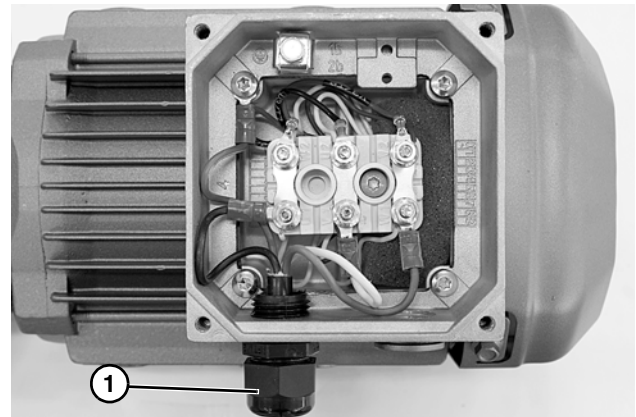

Figure 16
3. Install cord grip and power cord (**Figure 16, item 1**) mount to terminal box as required.